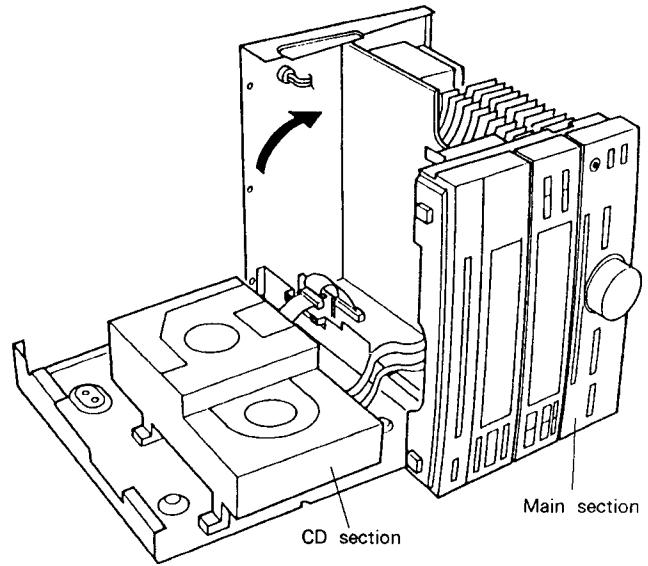

Fig. 7-3
4. Repair and examination will be easier when the MAIN unit is tilted to the right, as shown in Fig. 7-3.